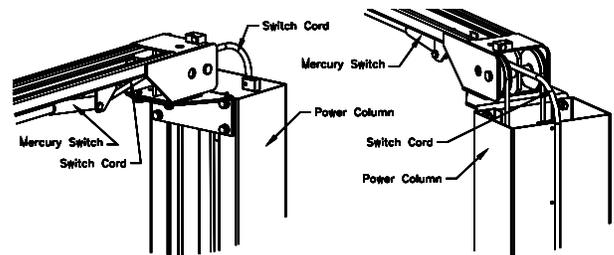

Fig 9 –Limit Switch Cord Routing
15) Route the Mercury switch cord through the end of the overhead and down the outside of the power column as shown in Fig 9.